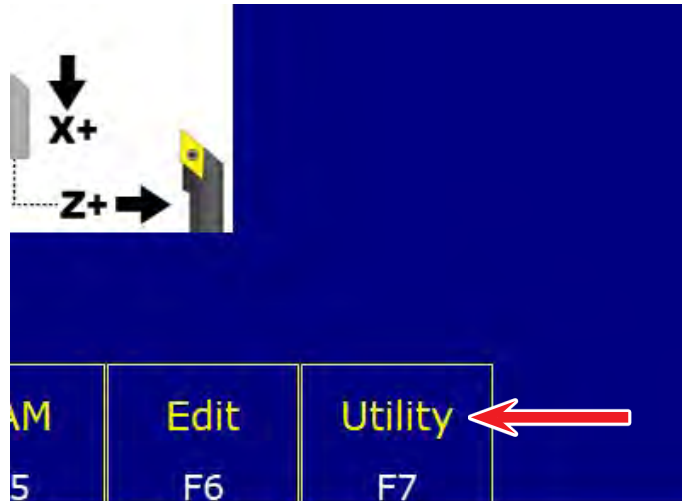

FIGURE 8
- At this time we are just going to load and check all of the settings. Click on Utility F7 (see Figure 8).